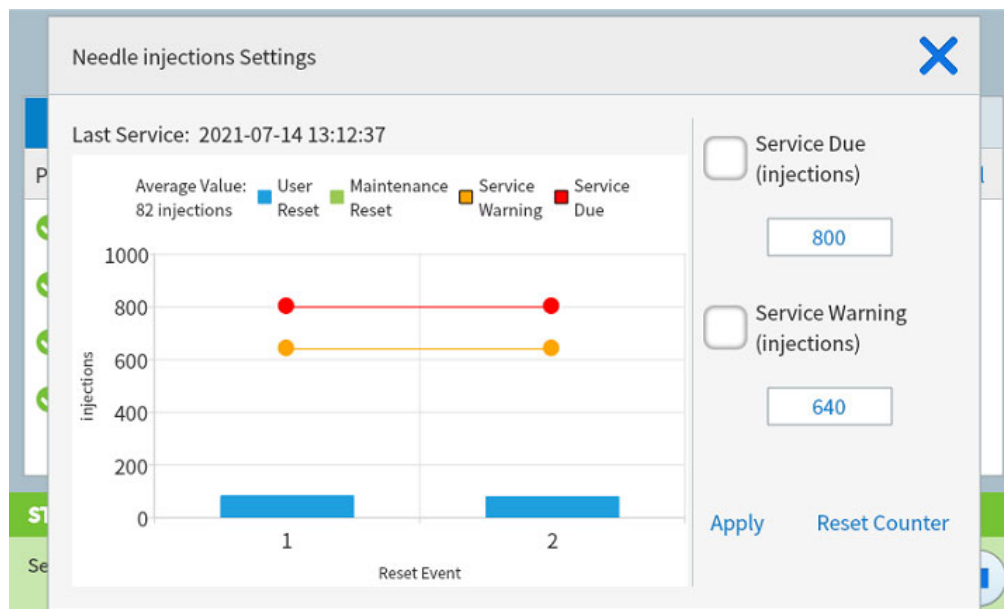

Figure 39. Settings dialog box
- 2 Select the **Details** listing for the counter you want to change. The dialog includes a trend plot for past reset events for this counter. See **Figure 39**.